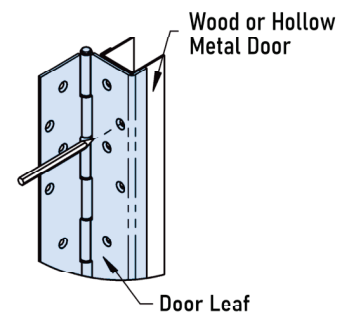

Fig. 3
B. Mark and center punch each hole on door with hinge held firmly in place (Fig. 3). Remove hinge from door and prepare to drill door.